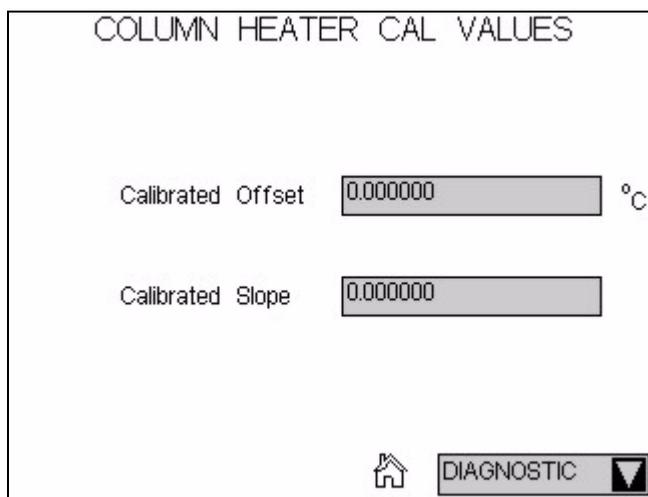

Figure 5-21. Column Heater Cal Values Page
- b. On the **COLUMN HEATER CAL VALUES** page (see Figure 5-21), enter the **Calibrated Offset** and **Calibrated Slope** values recorded in Step 4.